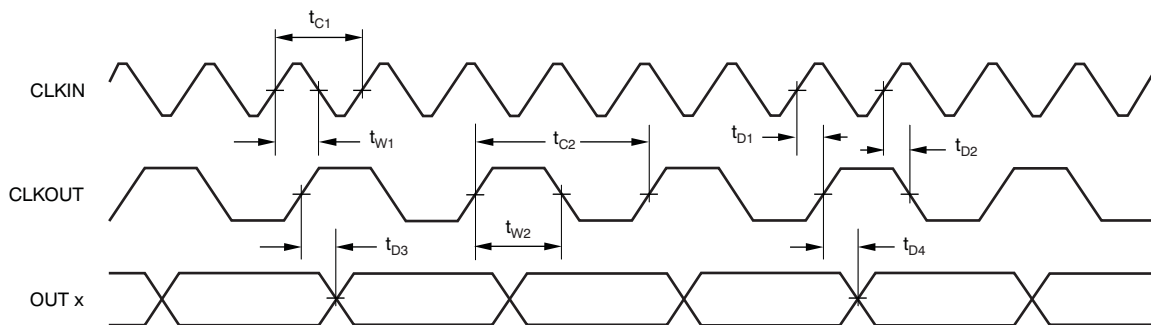

Figure 1. ADS1204 Timing Diagram
- (1) Applicable for 5.0-V nominal supply: $\text{BV}_{\text{DD}}(\text{min}) = 4.5\text{ V}$ and $\text{BV}_{\text{DD}}(\text{max}) = 5.5\text{ V}$. All input signals are specified with $t_{\text{R}} = t_{\text{F}} = 5\text{ ns}$ (10% to 90% of BV_{DD}) and timed from a voltage level of $(V_{\text{IL}} + V_{\text{IH}}) / 2$. See Figure 1.
- (1) Applicable for 3.0V nominal supply: $\text{BV}_{\text{DD}}(\text{min}) = 2.7\text{ V}$ and $\text{BV}_{\text{DD}}(\text{max}) = 3.6\text{ V}$. All input signals are specified with $t_{\text{R}} = t_{\text{F}} = 5\text{ ns}$ (10% to 90% of BV_{DD}) and timed from a voltage level of $(V_{\text{IL}} + V_{\text{IH}}) / 2$. See Figure 1.